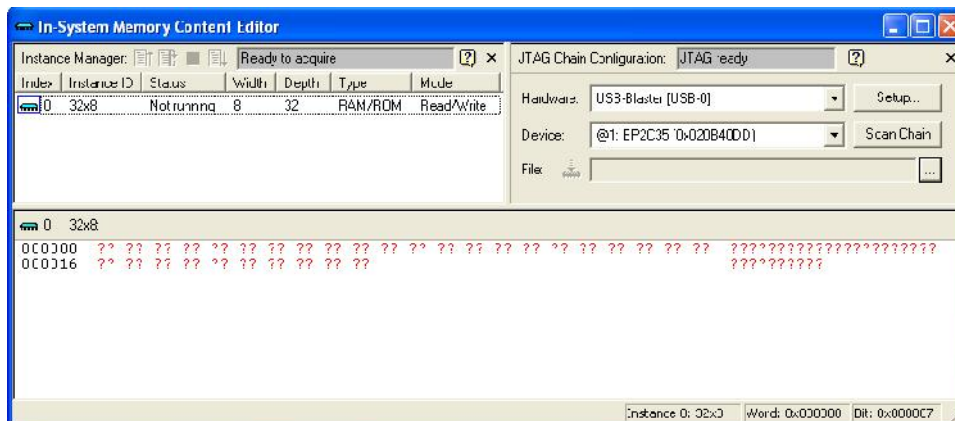
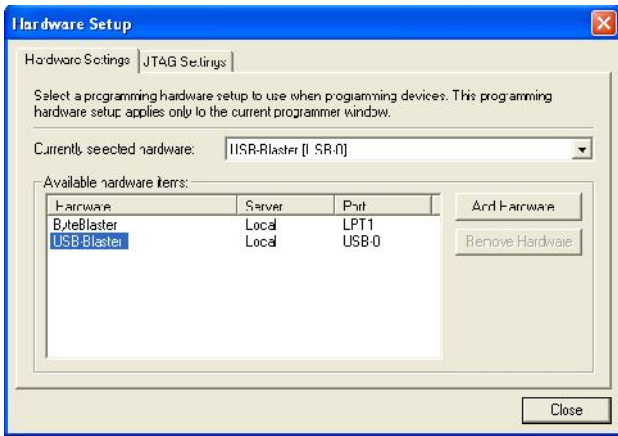

Figure 8. The In-System Memory Content Editor window.
Figure 9. The Hardware Setup window.
5. Select Tools > In-System Memory Content Editor, which opens the window in Figure 8. To specify the connection to your DE2 board click on the Setup button on the right side of the screen. In the window in Figure 9 select the USB-Blaster hardware, and then close the Hardware Setup dialog.